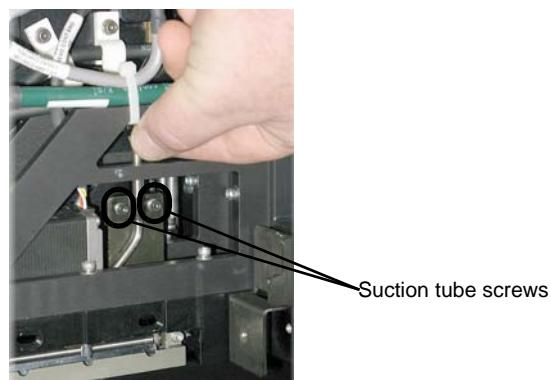

Figure 6-27: Lifting the suction tube
7. Return the roller waste collector to the print block and screw on the covering (see figure 6-27 on page 6-26).